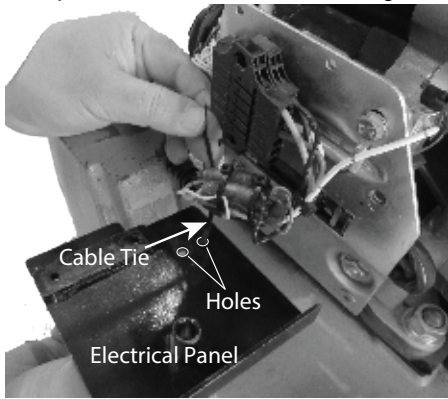

Figure 45. Secure Wiring to Electrical Panel
11. Secure the wiring connectors to the back of the electrical panel with cable ties. See Figure 45.